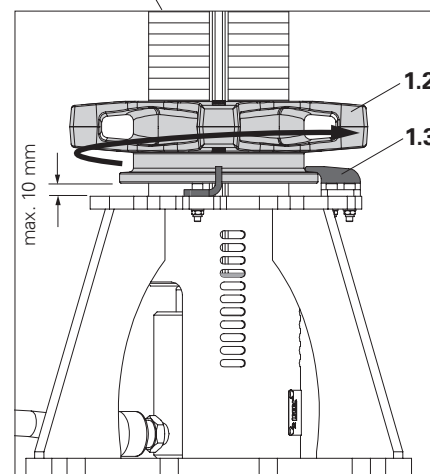

Fig. A5.06b
4. Turn the adjusting nut upwards by hand in an anticlockwise direction until the adjusting nut is resting against the hold-down device (1.3). (Fig. A5.06b)